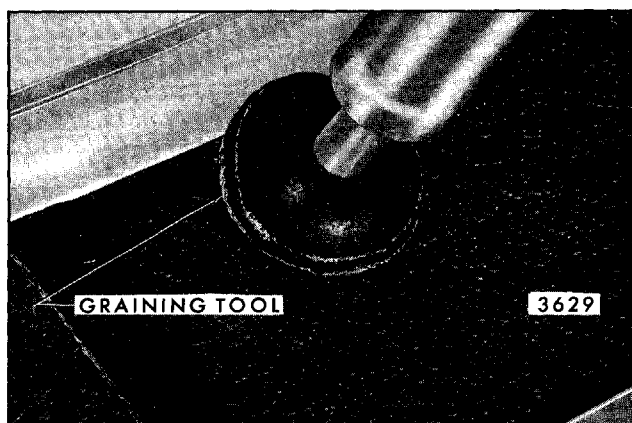

Fig. 8-56-Vinyl Patching Compound Curing and Graining
4. Graining operation is performed by exerting light hand pressure and applying preheated graining iron over damaged compound filled area for about one and one-half minutes (see Figs. 8-56 and 8-57). Curing and graining time can be increased slightly depending on size of repair.